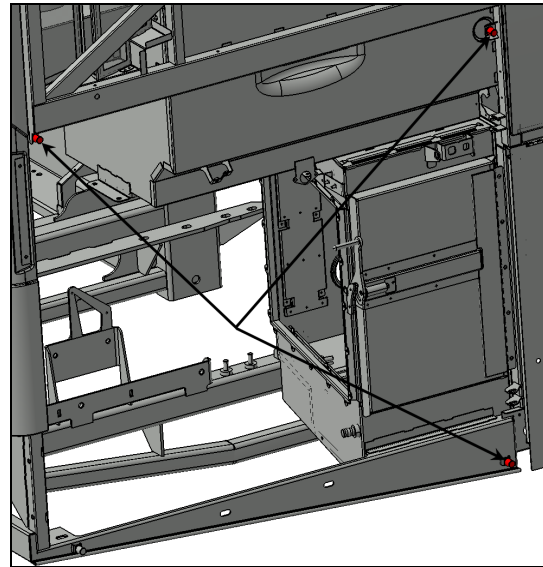
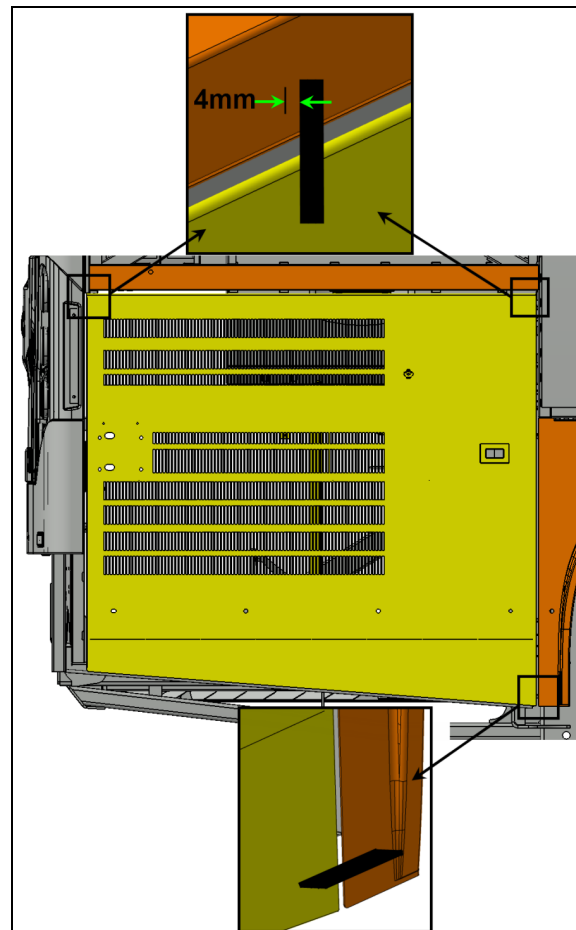

FIGURE 134
FIGURE 135
10. Screw in or out the two upper stoppers so that the upper part of the door exceeds the horizontal member by 5/32" to 3/16" (4mm to 5mm) (see FIGURE 134 & FIGURE 135).